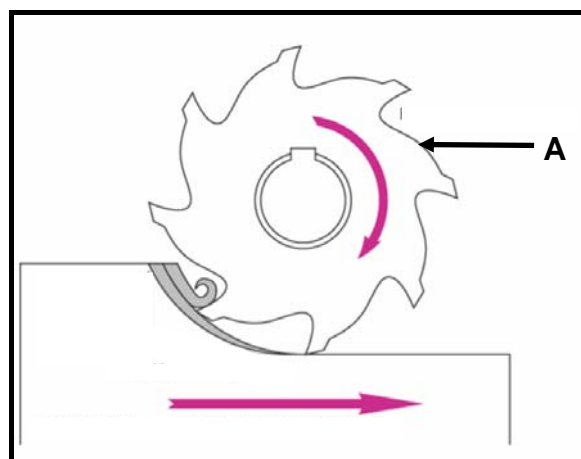

FIGURE 1.2
- 1.7 FIGURE 1.2 shows an operation to machine a work piece. Identify tool A shown in the figure.